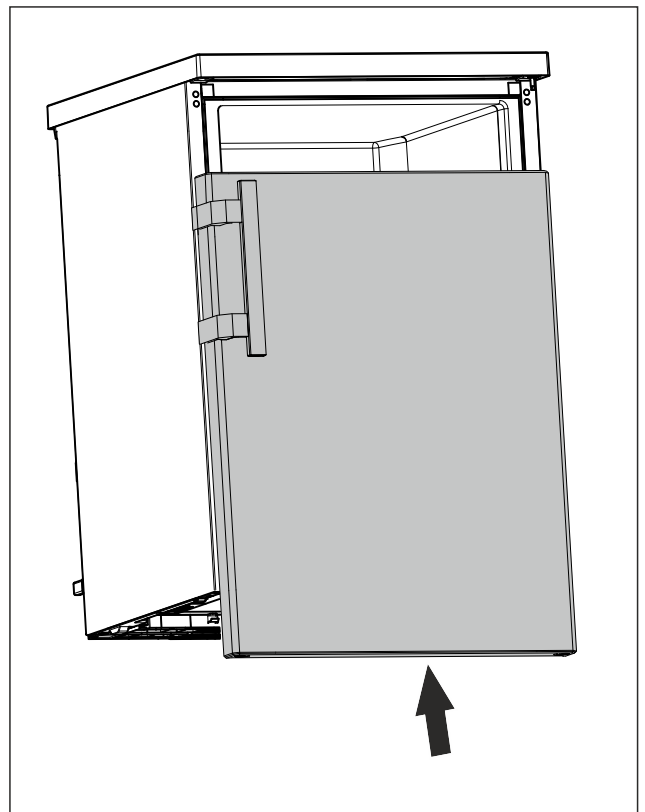

Fig. 16
- ▶ Slide the door onto the upper bolt in closed status. (see Fig. 16)